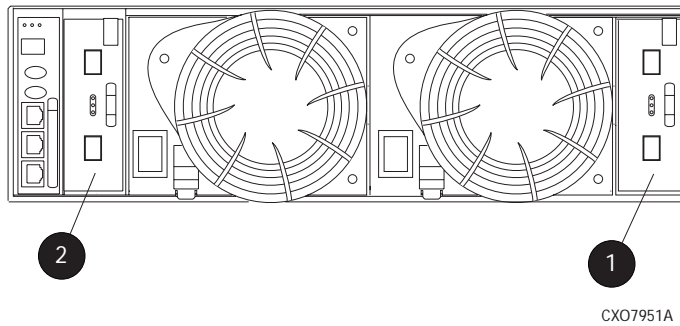

Figure 60 I/O module element numbering
- *en.* is the two-character I/O module element number (see Figure 60)